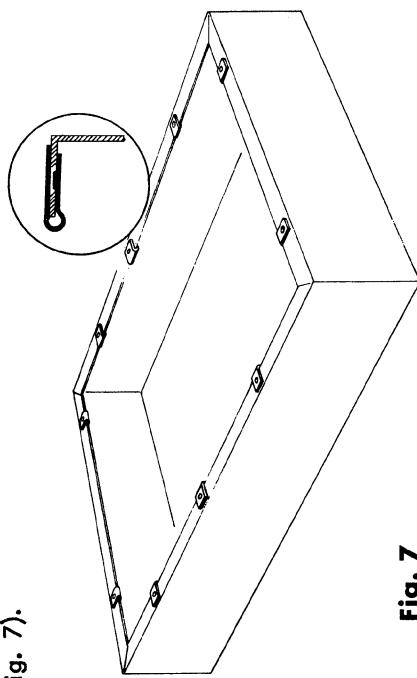

Fig. 7
- 7) Press a speed nut in place over each hole on the bottom flange of the chassis (see Fig. 7).